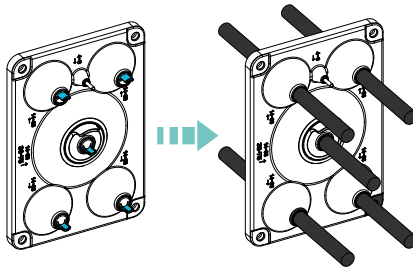

Figure 4-7a Route single-core outdoor wire
- For single-core outdoor cable, refer to Figure 4-7a. Note: When using the middle seal ring for routing, route grounding wire through it rather than L1, L2, or L3 wire.